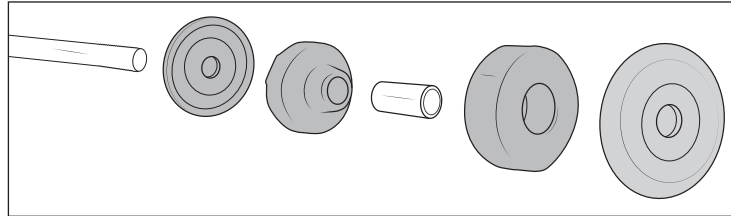

Figure 8
1. Install provided bushing components onto shock rod (fig. 8). Cupped washer goes onto shaft, then metal sleeve, then conical bushing go on shock shaft in orientation shown, then shaft gets placed through the frame and frame mount, then the other bushing and cupped washer go in place before installing the nut. Torque top nut to 40 ft-lb.